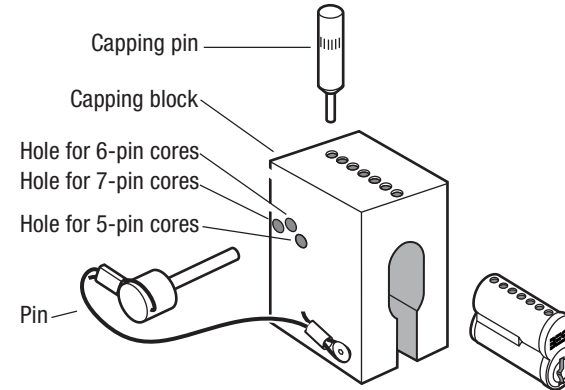

Figure 3 — Hand combining the core.
- 1 Insert the pin into the appropriate hole. See figure 3.